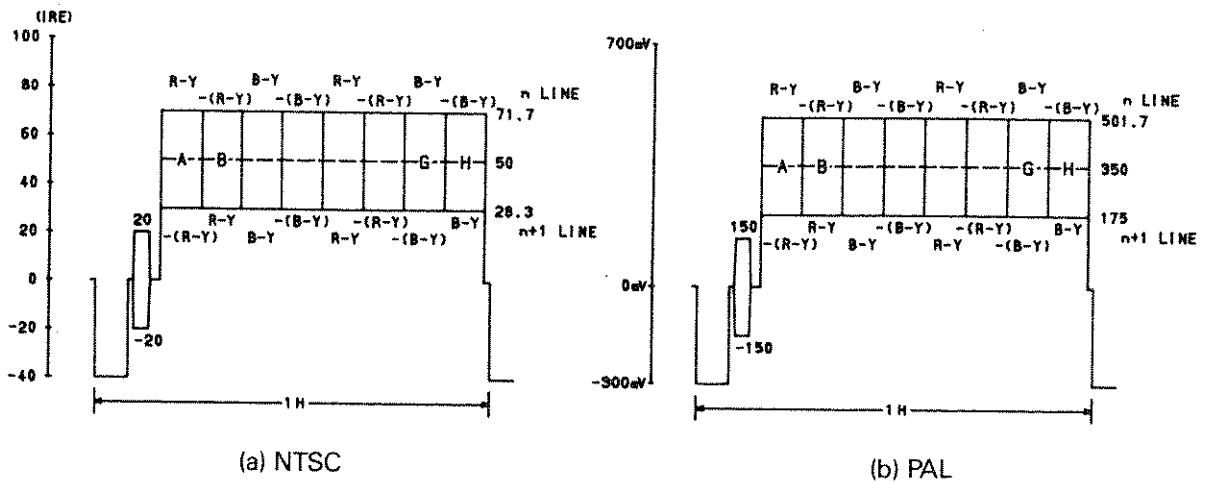

Figure 5.13
5.4 DEM Pattern (See Figure 5.13 and 5.14)
circuit with a delay line. Figure 5.13 and 5.14 show the waveforms.